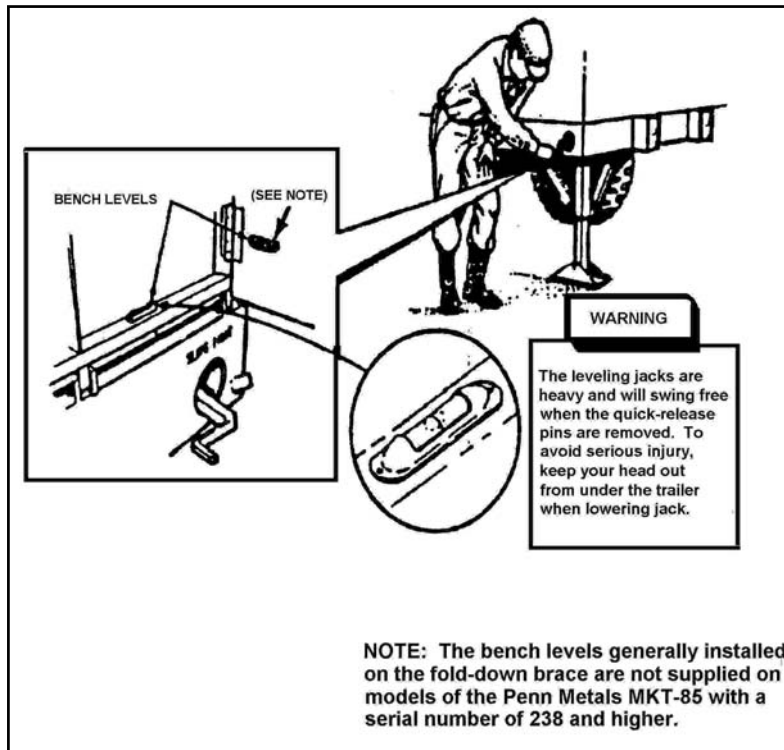

Figure 3-1. Turning the Jack Handle
- b. Make sure the jack handle is turned until the bubbles are centered over the bench level indicators on the corners of the ramp (see Figure 3-1, page 3-4).